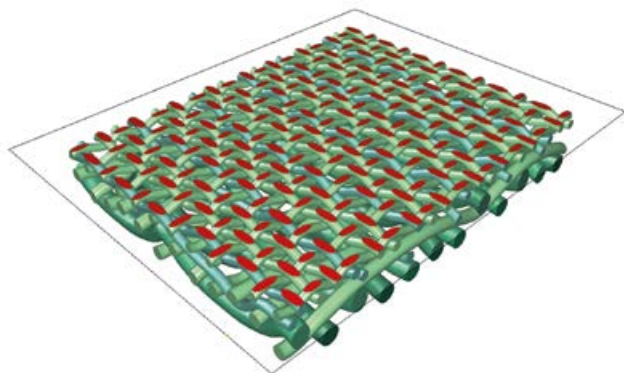

Fig. 1: Primoselect paper side: Sheet supporting elements highlighted
The best way to understand just how your fabric can provide the results detailed above is actually to take a much deeper look inside a forming fabric. The easiest way to begin is in fact to consider a **modern forming fabric as two separate and individual layers** – each one consisting of machine direction (MD) and cross direction (XD) yarns. So, in this case Fig. 1 highlights the paper side layer with the sheet-supporting elements of this